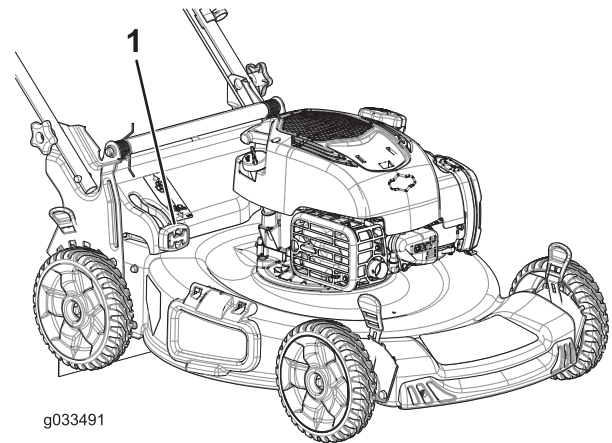

Figure 22
- For bagging the grass and leaf clippings, press the button on the bag-on-demand lever and move the lever forward until the button on the lever pops up (Figure 22).